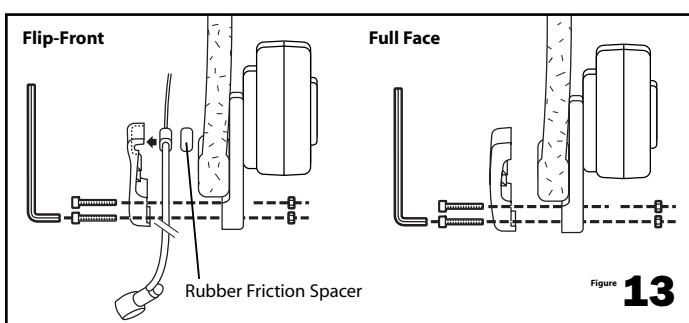

Figure 13
If the helmet is the flip-front style: Position the boom microphone clamp on the left side of the helmet so that the microphone lines up with the wearer's mouth. Tighten the clamp with the rubber spacer in place. **See Figure 13 — Flip-Front.**
7. Mount the clamp in the proper position on the left bottom edge of the helmet and tighten the clamp with the rubber friction spacer in place. **See Figure 13.**